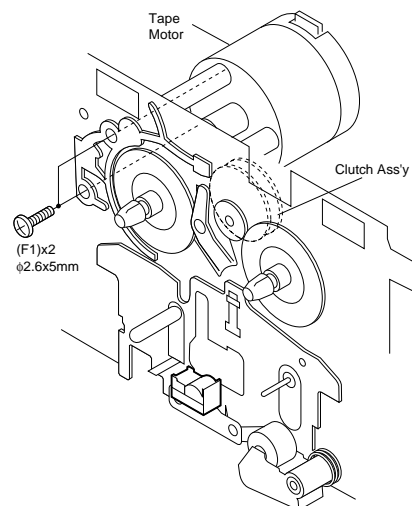

Figure 5
1.6. How to remove the motor. (See Fig. 5)